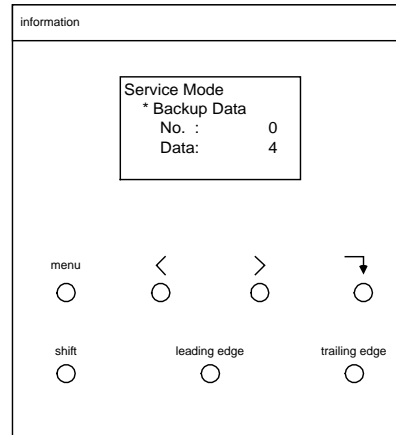

Figure 1. Backup Data Adjustment Mode
2. Press the < or > key to select the desired Backup Data No. (Refer to Figure 1 for typical display.)